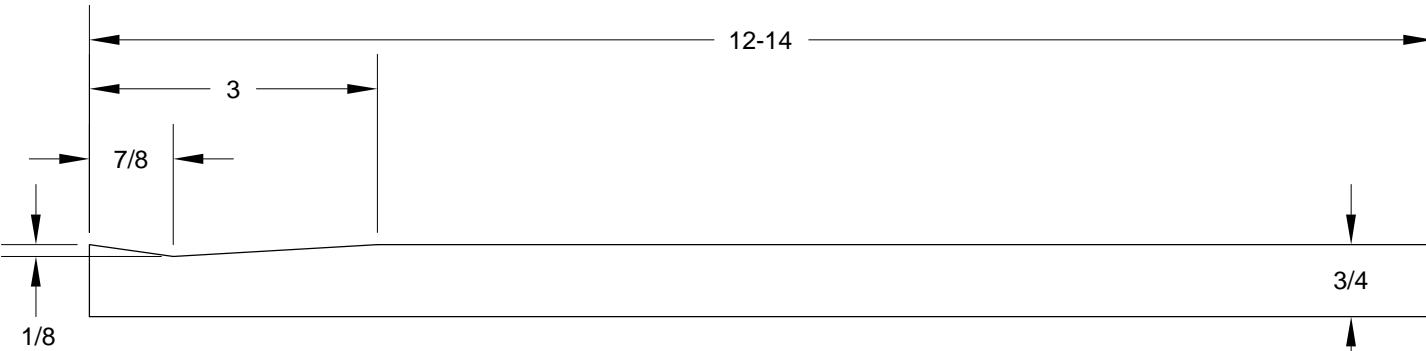
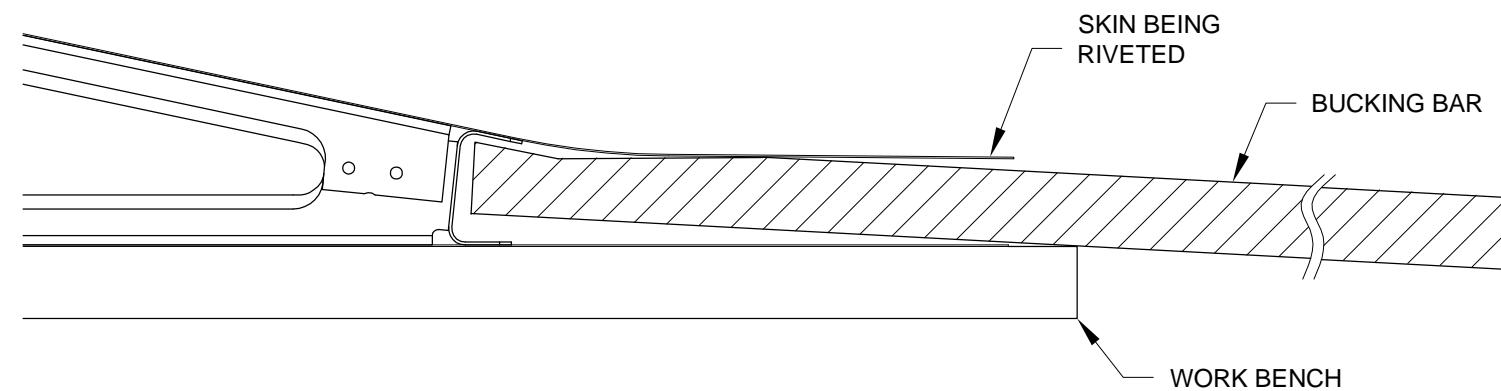

FIGURE 2: BUCKING BAR DIMENSIONS
FIGURE 3: RIVETING THE REAR SPARS TO THE SKINS
Step 3: Make the bucking bar shown in Figure 2. It should be at least one inch wide.
Step 5: Rivet the second flange of the **E-1007** Rear Spar to the **E-1001B** Bottom Skin of the left elevator. (Rivet the skin of the left elevator first to give you some practice before riveting the more visible top skin on the right elevator.) Position the elevator on the work bench, as shown in Figure 3, with the edge of the work bench extending slightly beyond the elevator trailing edge. Insert the bucking bar made in Step 3 between the skins, and, with the bar resting on the edge of the work bench, rivet the spar to the skin using the rivets called out on Page 9-20, Figure 2.